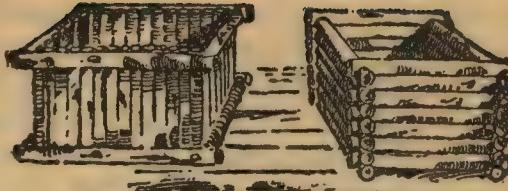
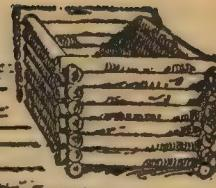

FIG. 44.
FIG. 45.
**Wood-Box.**—Construct a stiff frame of stout round sticks with smaller pieces nailed on the inside to form the sides and bottom, so that the pressure of the wood will not force them off (Fig. 44), or it may be made in regular log-cabin fashion, as shown in Fig. 45.